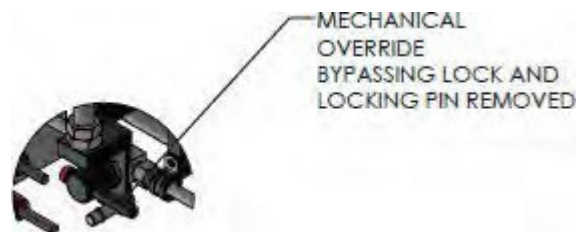

Figure 4
- a. Remove the manual override cover by (1) backing out the two #8-32 set screws with a 5/64 allen wrench and (2) lifting up the cover to expose the manual override. The manual override design is a spring reset with a detent locking feature.
- b. The solenoid override can be engaged as illustrated in **Figure 4** to bottom out the plunger against the solenoid poppet. By doing so, ports 1 and 2 of the solenoid are isolated.
4. Open the bypass illustrated in figure 4 (handle inline with tubing).